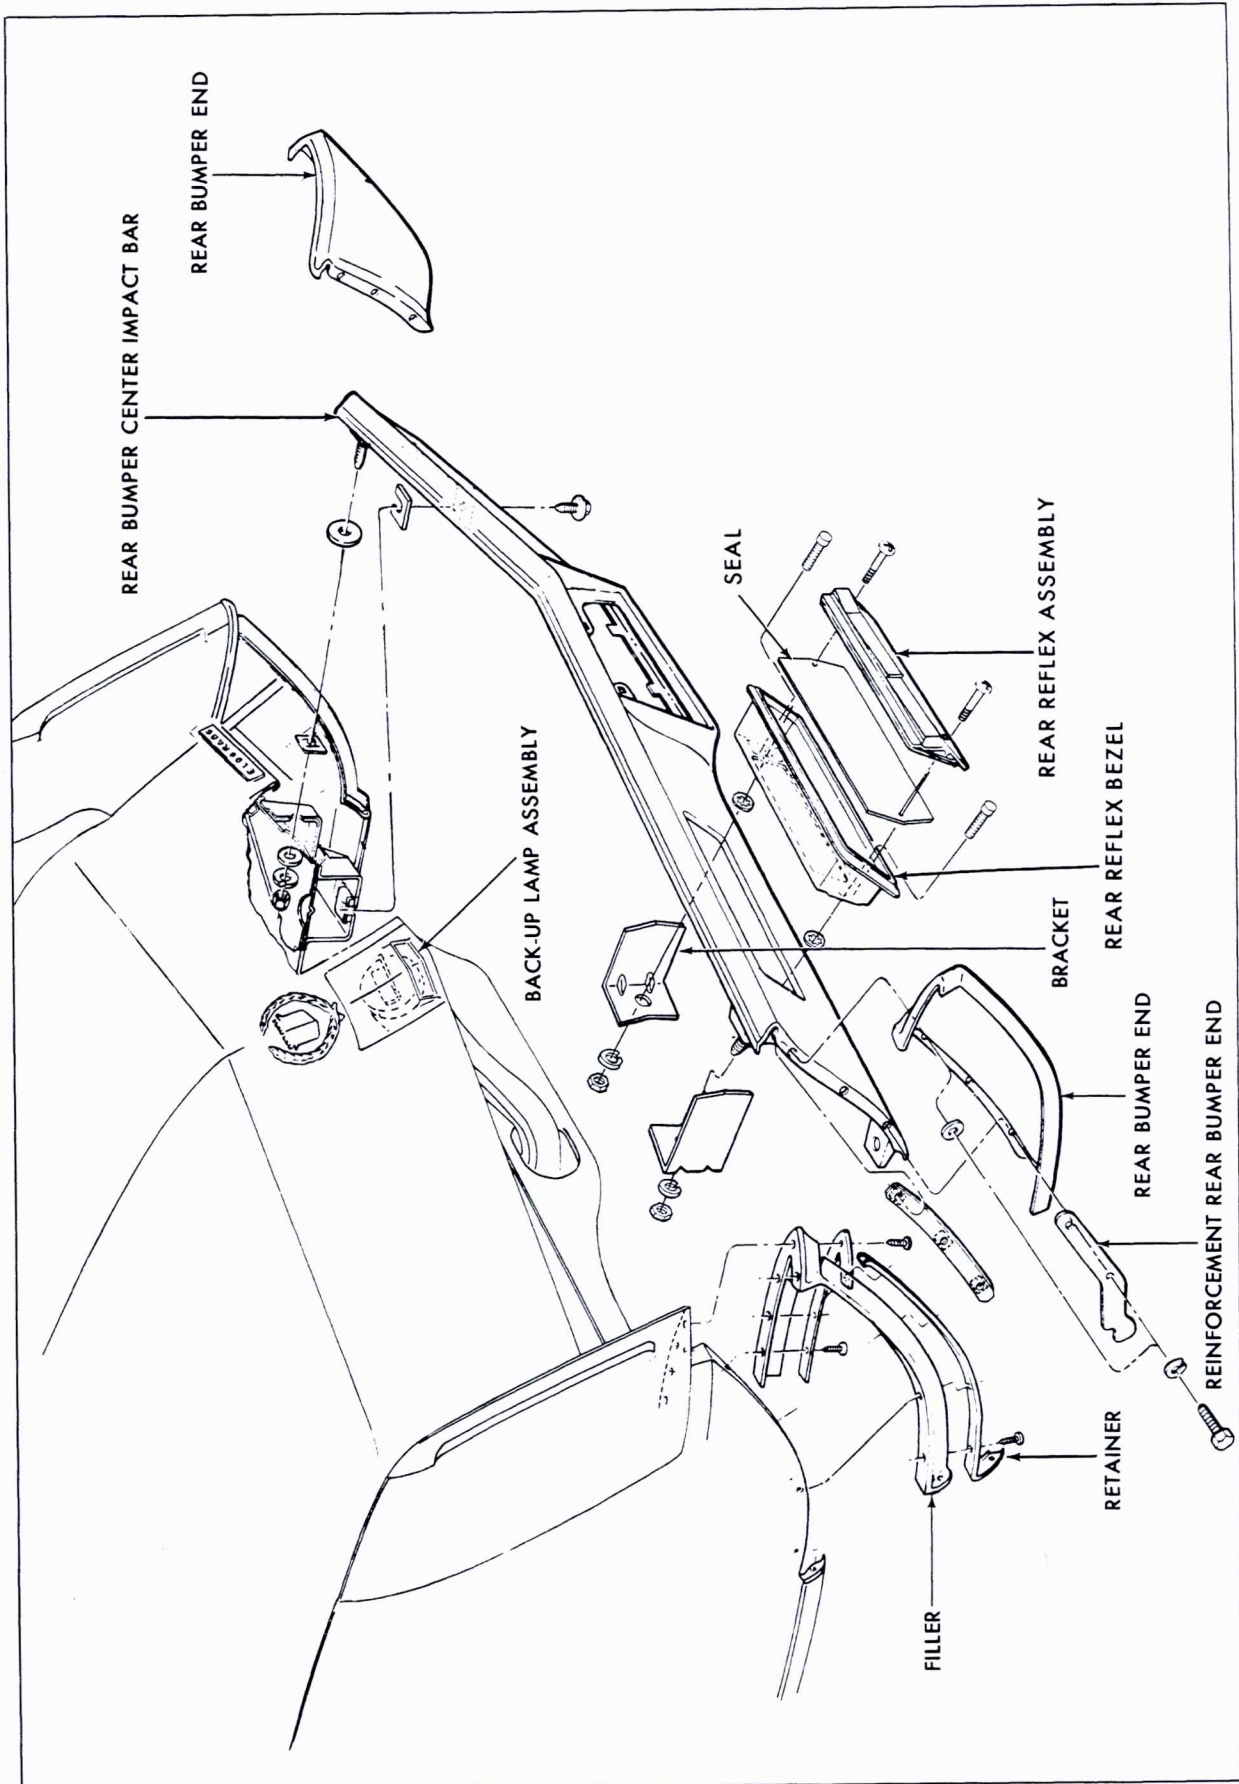

Fig. 14-8 Eldorado Rear Bumper - Disassembled
a. Removal (Fig. 14-8)
b. Installation (Fig. 14-8)